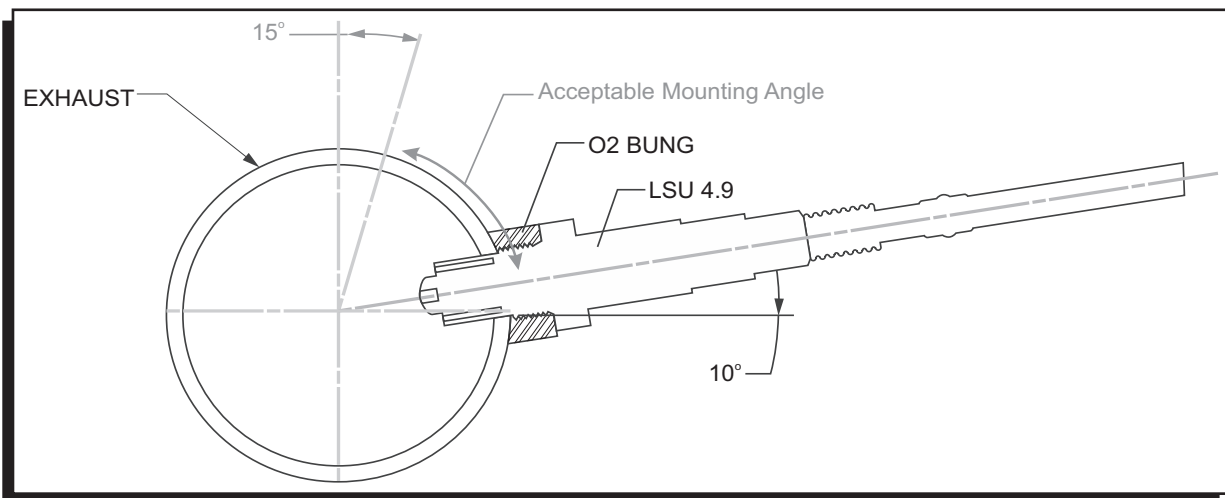

Figure 3
7. Install O2 sensor. See 'Mounting the O2 Sensor - LSU 4.9' (Figure 3)
The range of acceptable O2 sensor mounting positions is shown in **Figure 3**. Install the O2 Sensor between 15 degrees from the vertical, and 10 degrees from the horizontal. The sensor should be perpendicular to the gas flow, i.e. the bung should sit square over the pipe - this ensures adequate amount of gas enters the sensor.